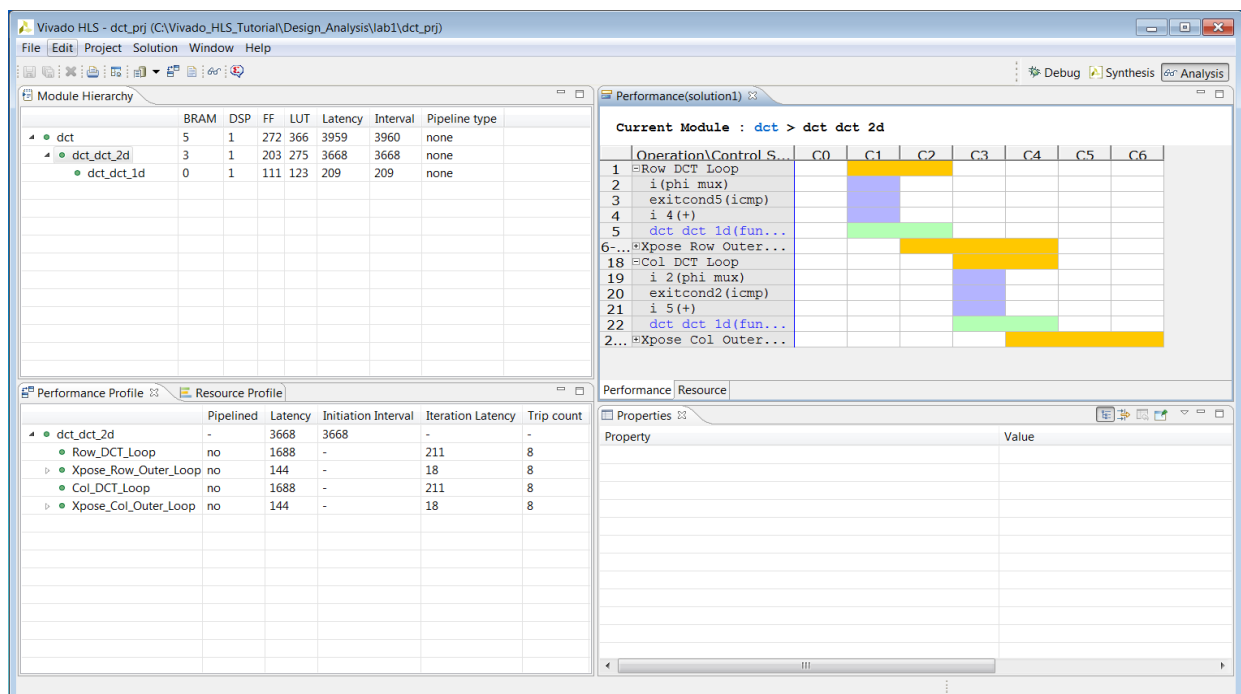

Figure 6-11: DCT_2D Performance View
6. In the Module Hierarchy pane, click the function **dct_dct_2d** to navigate into the view for this function (Figure 6-11).
In the Performance Profile you can see that the latency of all the loops has been substantially reduced (Row_DCT_Loop and Col_DCT_loop have been approximately halved from the earlier report in Figure 6-11). However, the majority of the latency is still due to these two loops, each of which calls the `dct_1b` block.